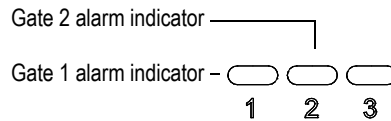

Figure 3-12 Gate 1 and gate 2 alarm indicator lights
- One of two alarm indicators (LEDs) is illuminated on the instrument front panel (see Figure 3-12 on page 73).